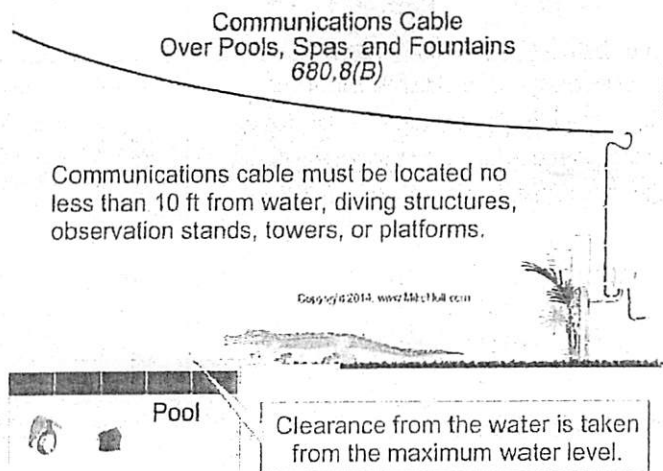

Figure 680-12
(B) Communications Systems. Permanently installed pools, storable pools, outdoor spas, outdoor hot tubs, fountains, diving structures, observation stands, towers, or platforms must not be placed under, or within, 10 ft of communications cables. Figure 680-12